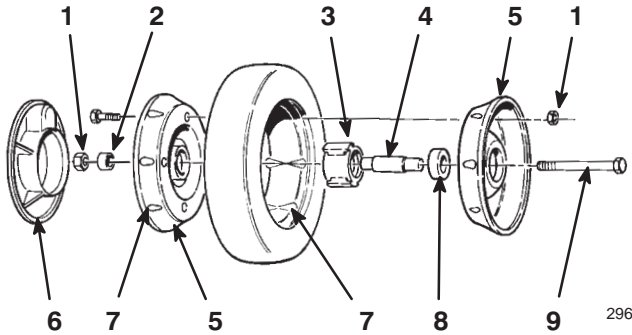

Figure 36
3. Remove the cap screw, the wheel spacer, and the locknut mounting the wheel to the pivot arm (Fig. 36).
4. Separate the wheel halves from the tire by removing 4 cap screws and 4 locknuts (Fig. 36).
Note: If you remove the bearings from the bearing/hub assembly, remove them by pressing on the bearing spacer (Fig. 36).
1. Position the tire onto one wheel half, aligning the lugs on each (Fig. 36).
2. Place the bearing/hub assembly into the center hole of the wheel half. Ensure that the legs of the hub are positioned over the flange of the hole (Fig. 36).
3. Place the other wheel half onto the bearing/hub assembly, aligning the wheel and the tire lugs and the mounting holes (Fig. 36).
4. Using 2 fully threaded screws or bolts (1/4–20 x 1.50 in.) and non-locking nuts, loosely secure the wheel halves together. Mount the screws or bolts in the opposing holes (Fig. 36).
5. Check the alignment of all parts and tighten the screws, alternating from side to side for a uniform fit, until the wheel halves are drawn together (Fig. 36).
6. Install the 2 cap screws and 2 locknuts previously removed in the remaining holes in the wheel halves and tighten. Remove the 2 long screws or bolts and replace them with 2 cap screws and 2 locknuts (Fig. 36).
7. Install the wheel to the pivot arm with the cap screws, a spacer, and a locknut. Ensure that the spacer is positioned between the wheel hub and the pivot arm (Fig. 36).